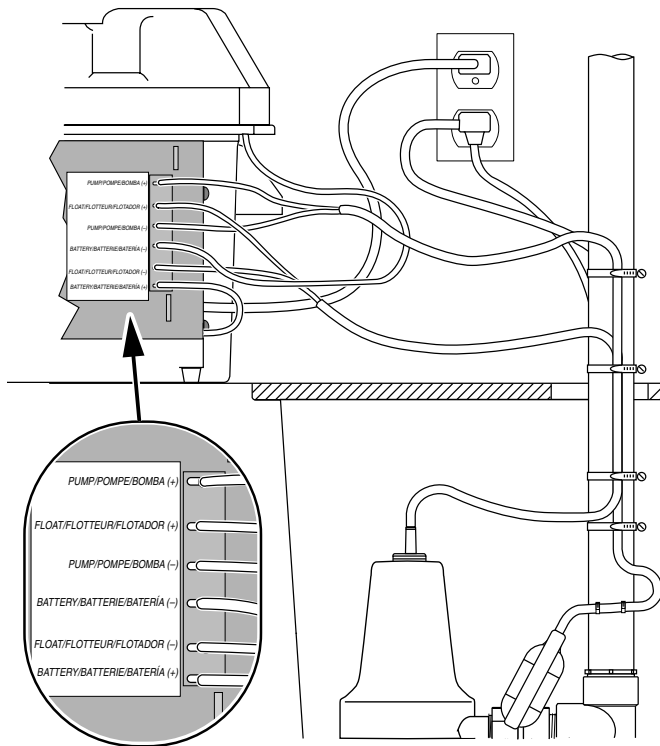

Figure 11 – Wiring Connections MBSP-PLUS-18T
1. Connect charger as shown in Table IV and Figure 11.